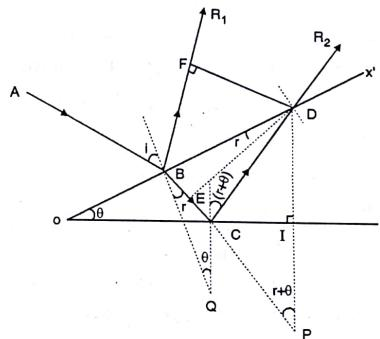

Fig. 1.7.1 : Interference in wedge shaped film
- Consider a film of non-uniform thickness as shown in Fig. 1.7.1. It is bound by two surfaces OX and OX' inclined at an angle  $\theta$ . The thickness of the film gradually increases from O to X.